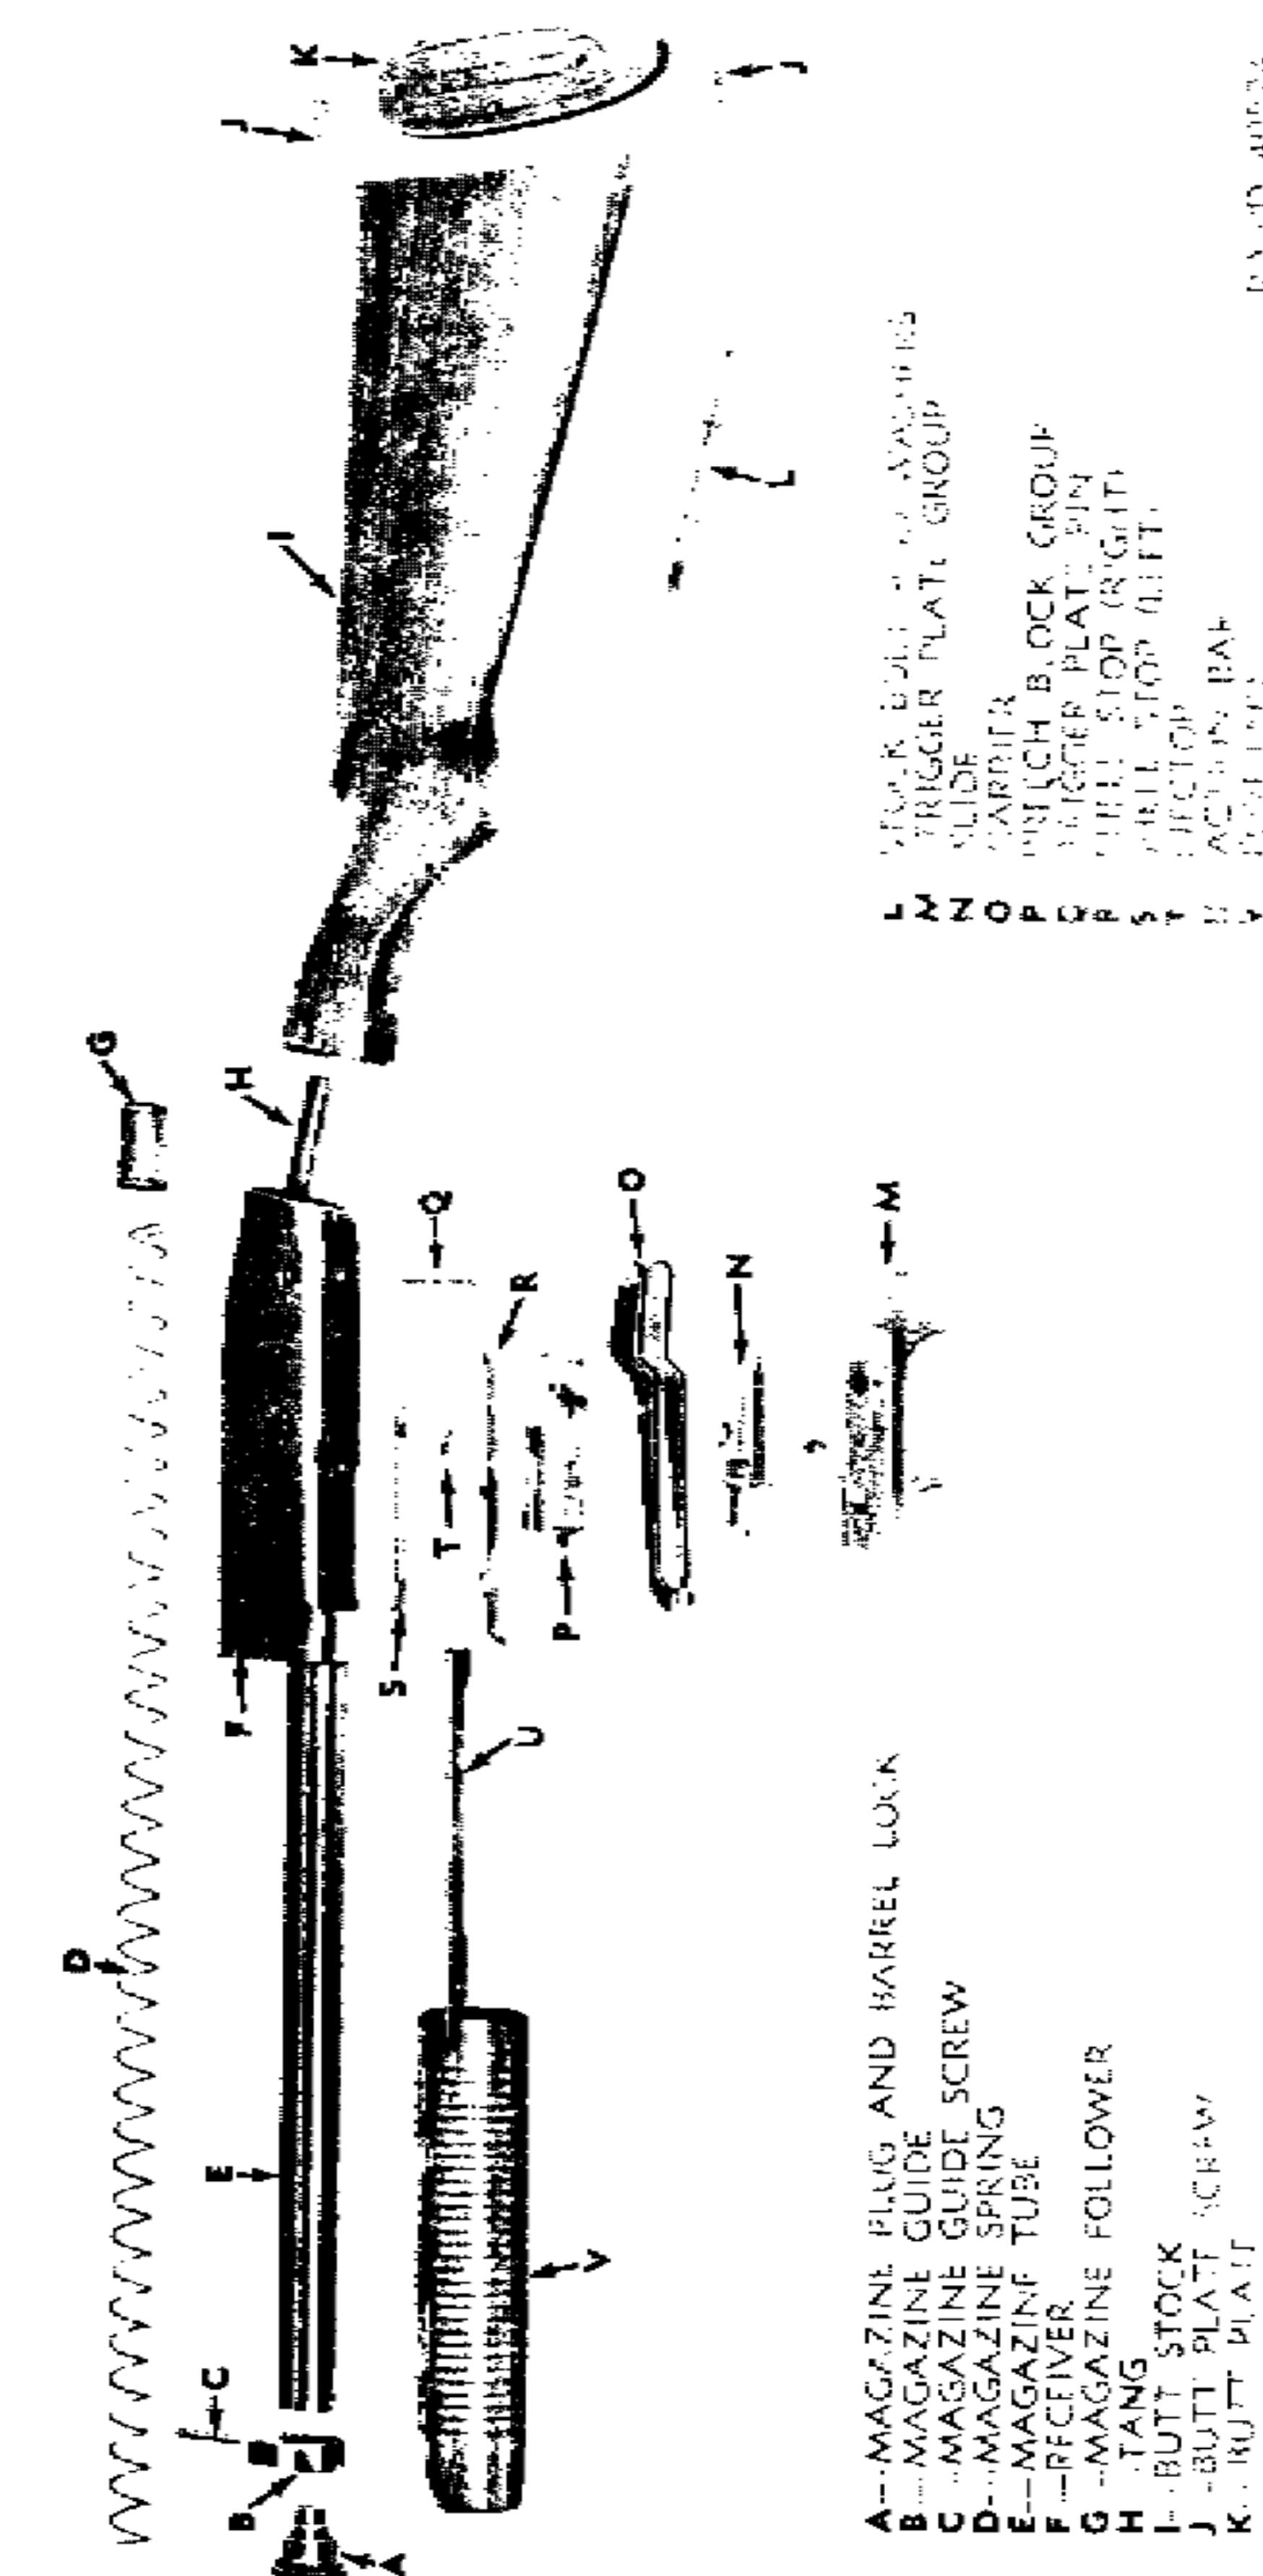

Figure 86—Disassembled View—(Without Barrel)—Riot Type—Remington Shotgun M31
(3) The sporting-type gun is similar to the skeet-type gun but is furnished with a 30-inch barrel, bored full choke, and is without bayonet attachment or sling.
d. General Description (figs. 86, 93 and 94).
48. REMOVAL OF GROUPS (figs. 86, 93 and 94):